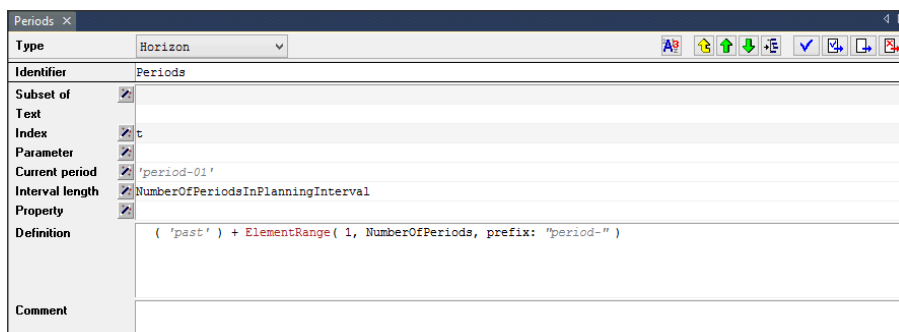

Figure 6.11: The completed attributes of the horizon 'Periods'
Consider Figure 6.11, and complete the **Definition** attribute. Again, you may want to use the name completion facility to select `NumberOfPeriods` as the second argument in the function `ElementRange`.
- ▶ type the definition as in Figure 6.11,